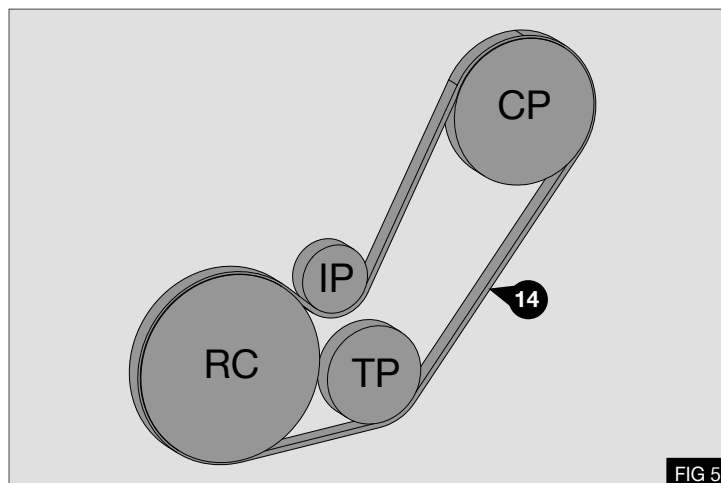

FIG 5
1. Fit supplied poly groove drive belt (14) - Fig.5